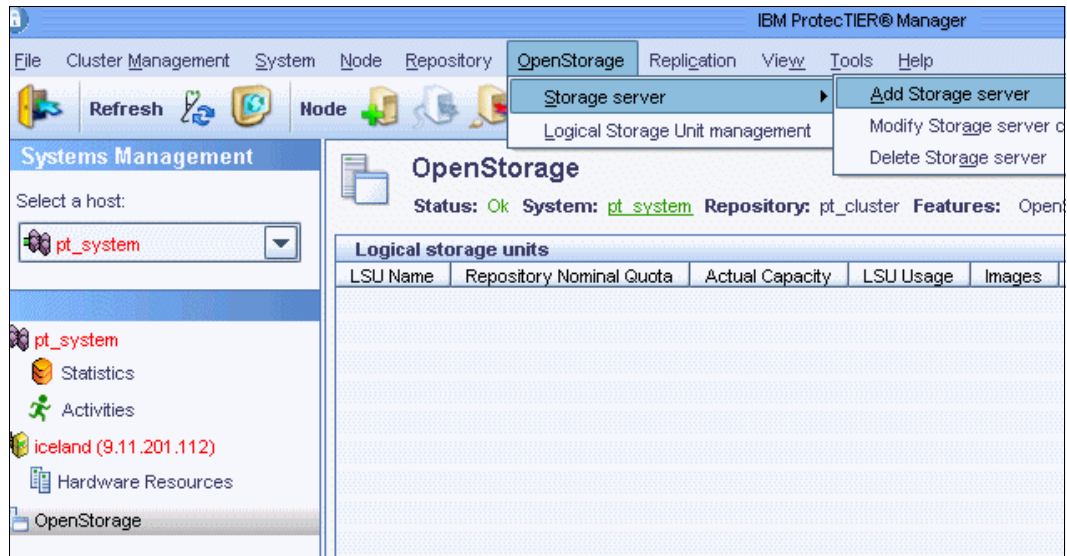

Figure 5-80 Add Storage Server
- From the OpenStorage menu, select **Storage server** → **Add Storage server** (Figure 5-80). The STS configuration window opens.